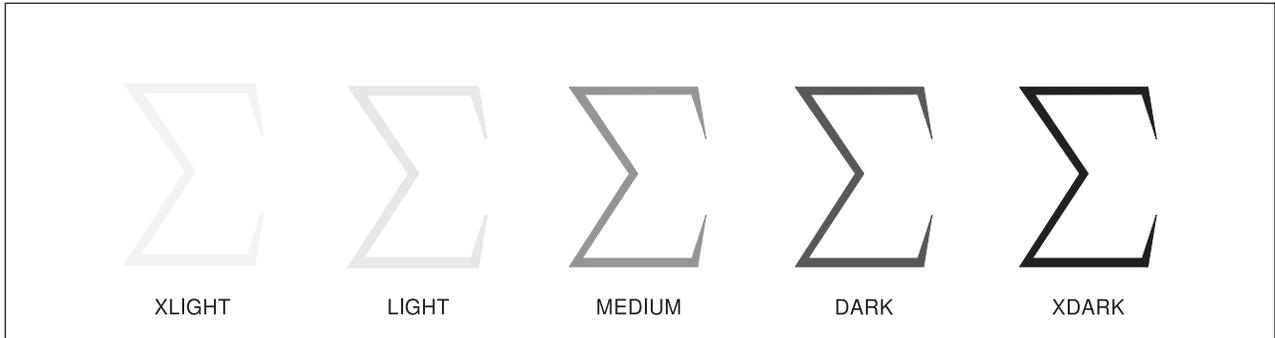

Figure 200. Named Shades for a Pattern
- Enter one of the named shades illustrated in Figure 200 on page 279 that describes the amount of shading you want.